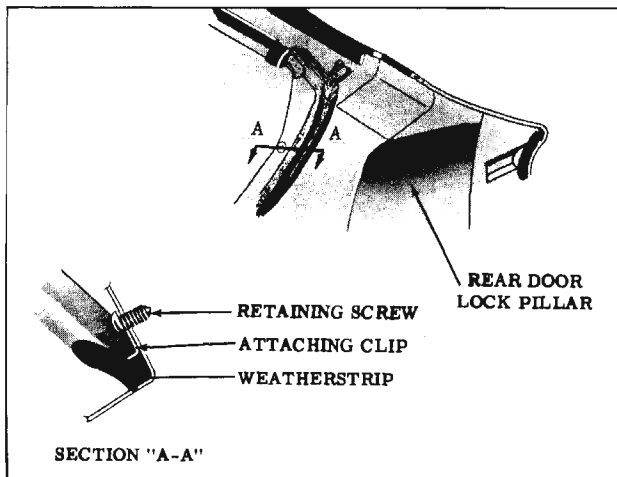

Fig. 16-37 Weatherstrip Attaching Screws (39 Style)
2. On "39" style rear doors, remove the single weatherstrip attaching clip screw located at upper radius of lock pillar. (Fig. 16-37)